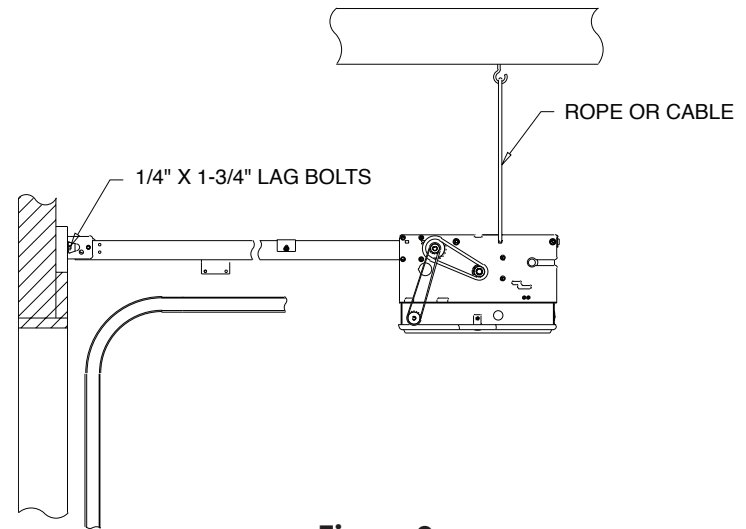

Figure 9
- 4) Center spreader bracket on the vertical line. Use two (2) 1/4" x 1-3/4" lag bolts to attach the bracket to the header. **Fig. 9.**
- 5) Raise the door and position the operator so that the drawbar tracks are level and the operator chain is in line with the center of the door (or the stile where the door bracket will be attached). **Fig. 9.**